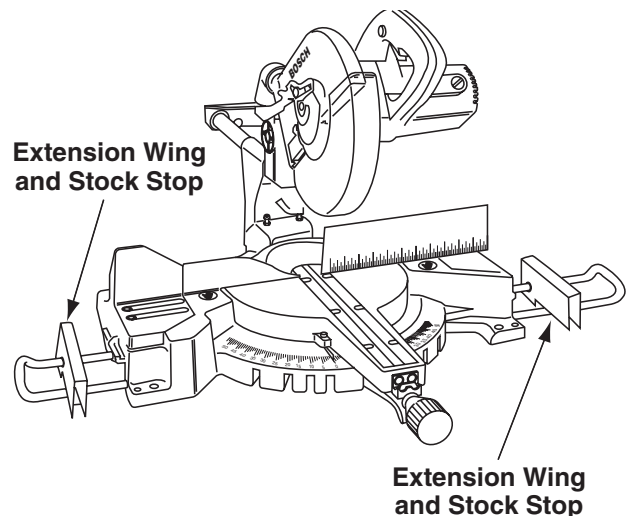

Figure 22. Extension Wing and Stock Stop
**Extension Wing and Stock Stop** - This attachment (accessory #BA162) allows extra support for the longer workpieces. Refer to the accessory instruction sheet for details (Figure 22). See page 34 for a complete accessory list.